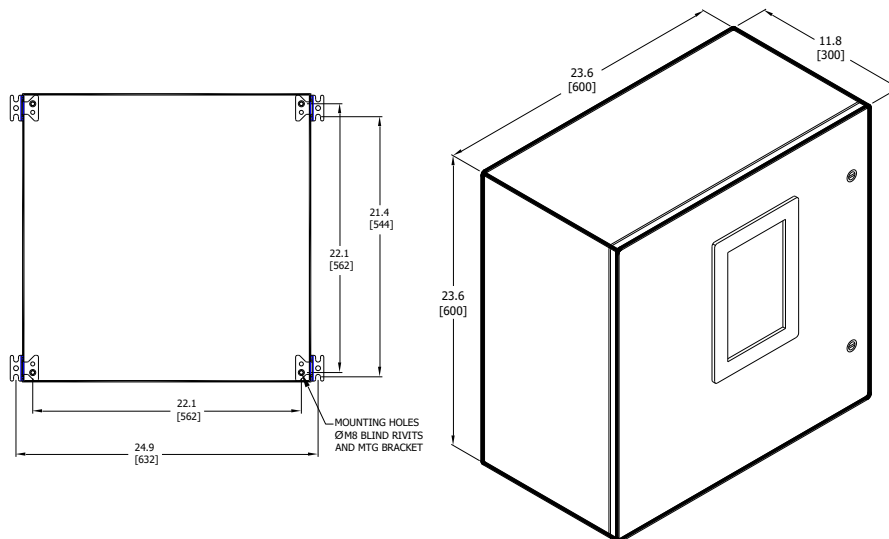

Figure 3-13: NEMA Enclosure
Figure 3-13 illustrates the NEMA 4X enclosure.
3. Mount the enclosure to the surface of the structure using the factory-provided mounting brackets (see Figure 3-13).